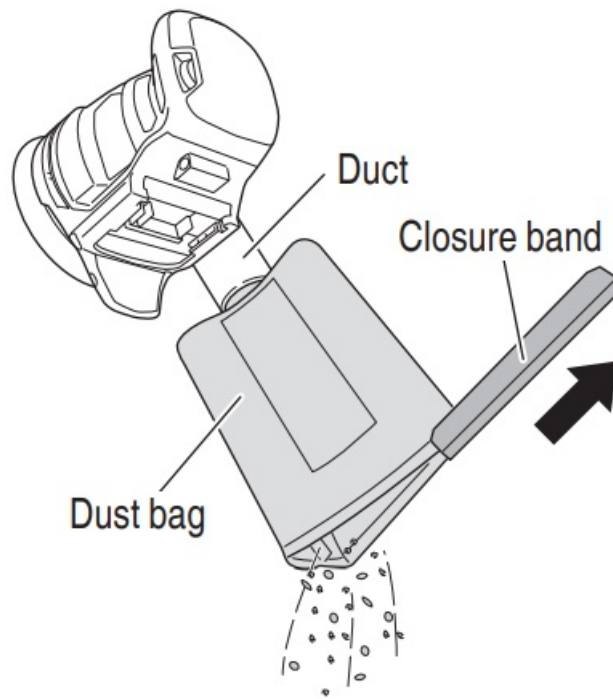

Fig. 16
1. Emptying and cleaning the dust bag (Fig. 16) If the dust bag contains too much dust, dust collection will be affected. Empty the dust bag when it gets full. Remove the dust bag, detach the closure band and dispose of the contents.